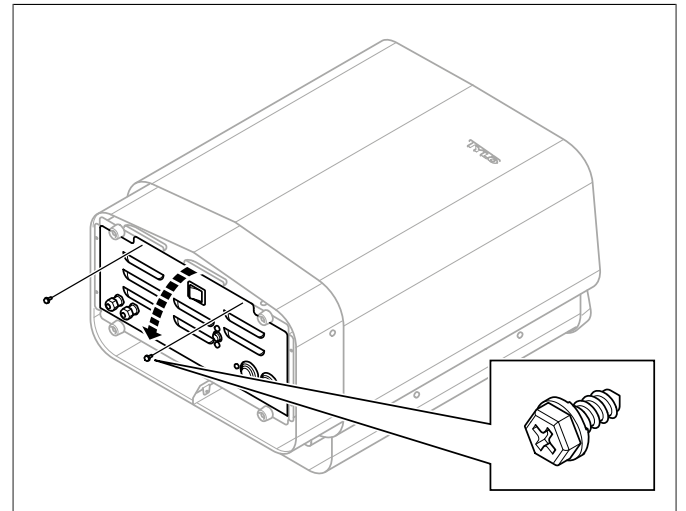

Figure 8: Opening/closing the cover
2. Slacken the screws and open the cover (see **Figure 8**, Page 4).
7. Close the cover and tighten the screws (see **Figure 8**, Page 4).